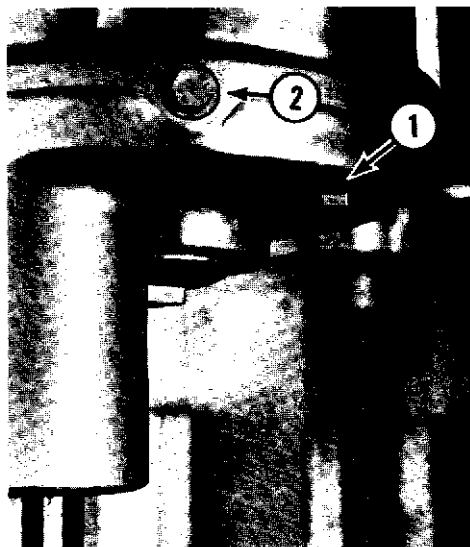

Fig. 10-23
- I. Install the drain plug (1, Fig. 10-23) and remove the fill plug (2, Fig. 10-23). Service the planetary with oils (Refer to the "Lubrication Chart" for the correct type of oil). Planetary is full when the oil just runs back out the fill hole. Install the fill plug.